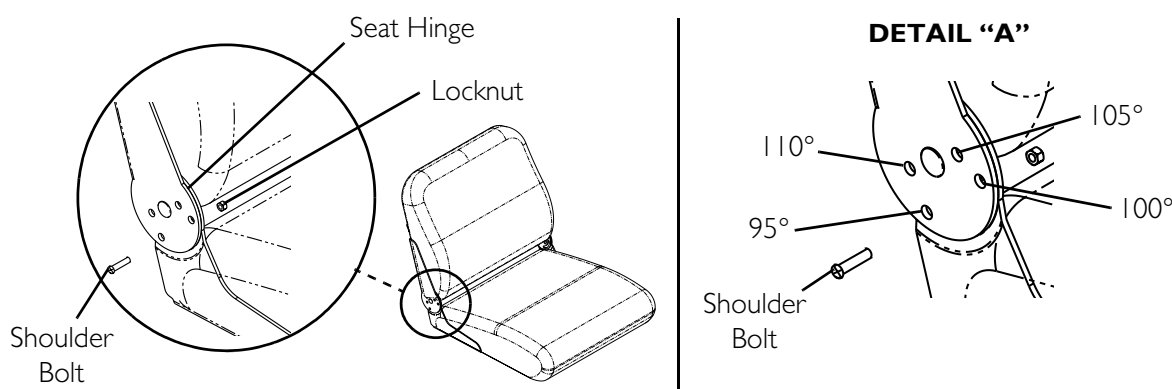

FIGURE 6.2 Adjusting the Back Angle - Fold Down Back Angle
NOTE: For this procedure, refer to FIGURE 6.2 on page 50.
2. Select one of the four back angle positions as shown in Detail "A" of FIGURE 6.2.